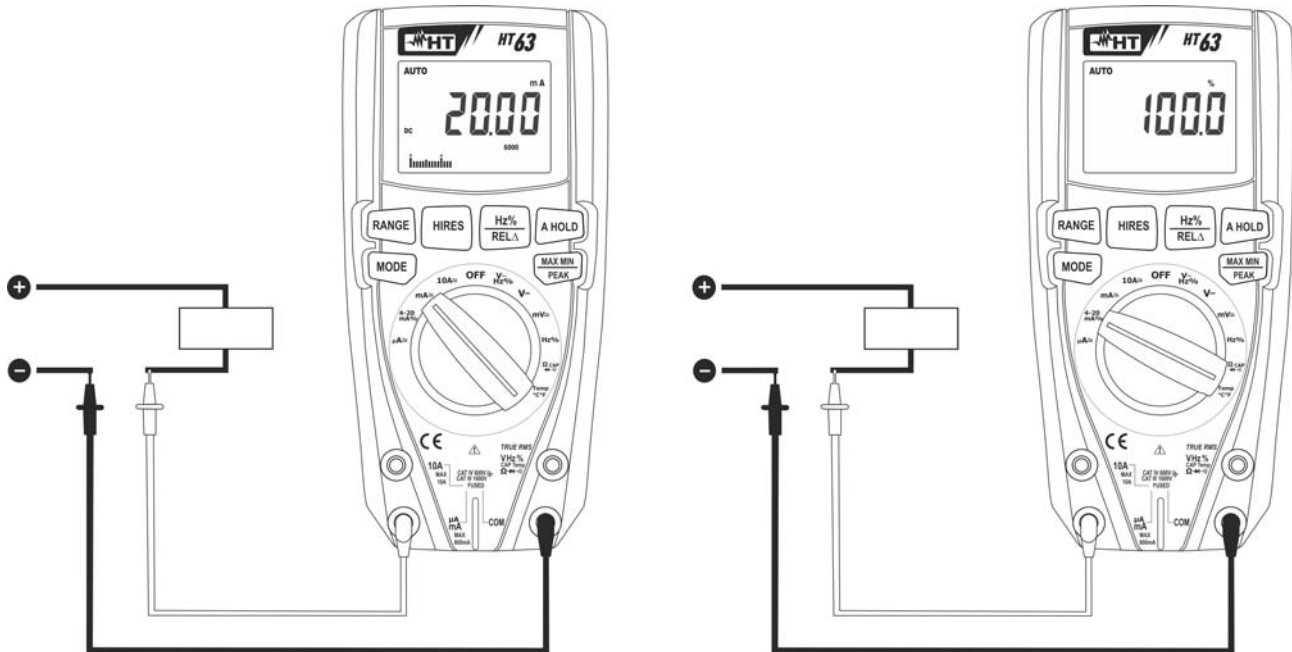

Fig. 9: Use of the instrument for DC current measurement and 4-20mA% reading.
4. Connect the red lead and the black lead in series to the circuit whose current you want to measure, respecting polarity and current direction (see Fig. 9).
6. The value of DC current (see Fig. 9 – left side) appears on the display.
7. The value of reading 4-20mA% (0mA = -25%, 4mA = 0%, 20mA = 100% and 24mA = 125%) (see Fig. 9 – right side) appears on the display. The bargraph is not active in this function
9. When symbol "-" appears on the instrument's display, it means that current has the opposite direction with respect to the connection in Fig. 9.